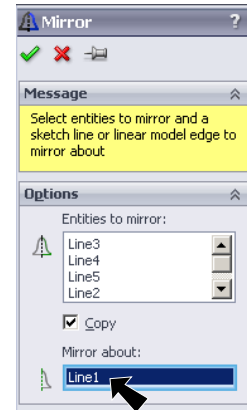

Fig. 6
Step 4. In the Mirror Entities Property Manager: click in **Mirror about box**, **Fig. 6** and click **the vertical centerline** in sketch, **Fig. 6**.